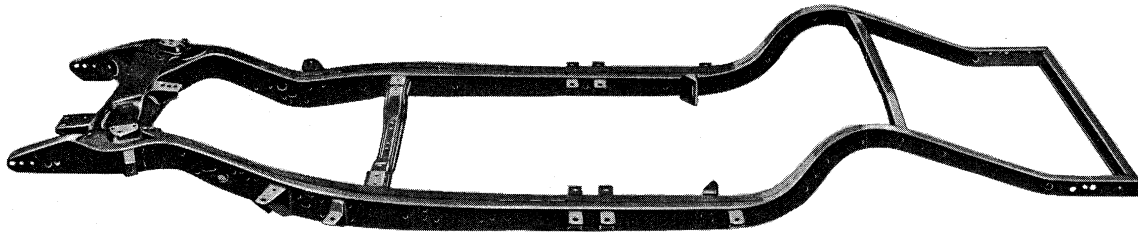

Figure 1
Refer to the chart on first page to determine basic frame to be used and operations necessary to alter it for adaptation to the desired vehicle. Then perform only the operations listed below as indicated in the chart. It is recommended that an electric welder be used for all cutting and welding - DO NOT USE ACETYLENE. Figure 1 shows the basic frame as it would be received from the Parts Division.
- Operation #1 Weld #3 body hold down bracket, Part Number 1730 660, to the frame 42.19 inches from #2 body hold down bracket on both right and left sides of the frame. Measure as indicated in Fig. 1. Weld all around both sides of the bracket.
- Operation #2 Weld #3 body hold down bracket, Part Number 1829 945, to the frame 42.19 inches from #2 body hold down bracket on both right and left sides of the frame. Measure as indicated in Fig. 1. Weld all around both sides of the bracket.
Fig. 1 Measure from the center line of the hole in the #2 Body Hold Down Bracket to the center line of the hole in #3 Body Hold Down Bracket and parallel to the center line of the frame.